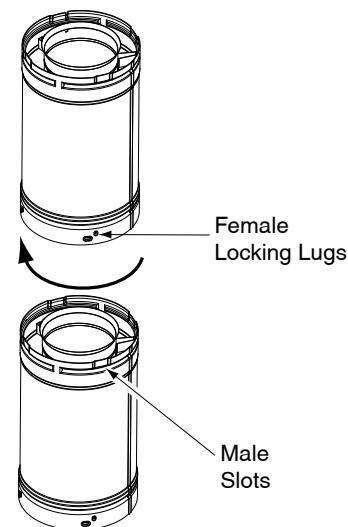

Figure 11 - Vent Pipe Connection
**Twist-Lock Procedure:** The female ends of the pipes have locking lugs (indentations). These lugs will slide straight into matching slots on the male ends of adjacent pipes. Push pipe sections together and twist one section clockwise approximately one-quarter turn until the sections are fully locked (see **Figure 11**). **Note:** Horizontal runs of vent must be supported every three feet. Use wall strap for this purpose.
2. Assemble the desired lengths of pipe and elbows necessary to reach from the fireplace flue up through the firestop. Be sure all pipe and elbow connections are fully twist-locked (see **Figure 11**, page 9).